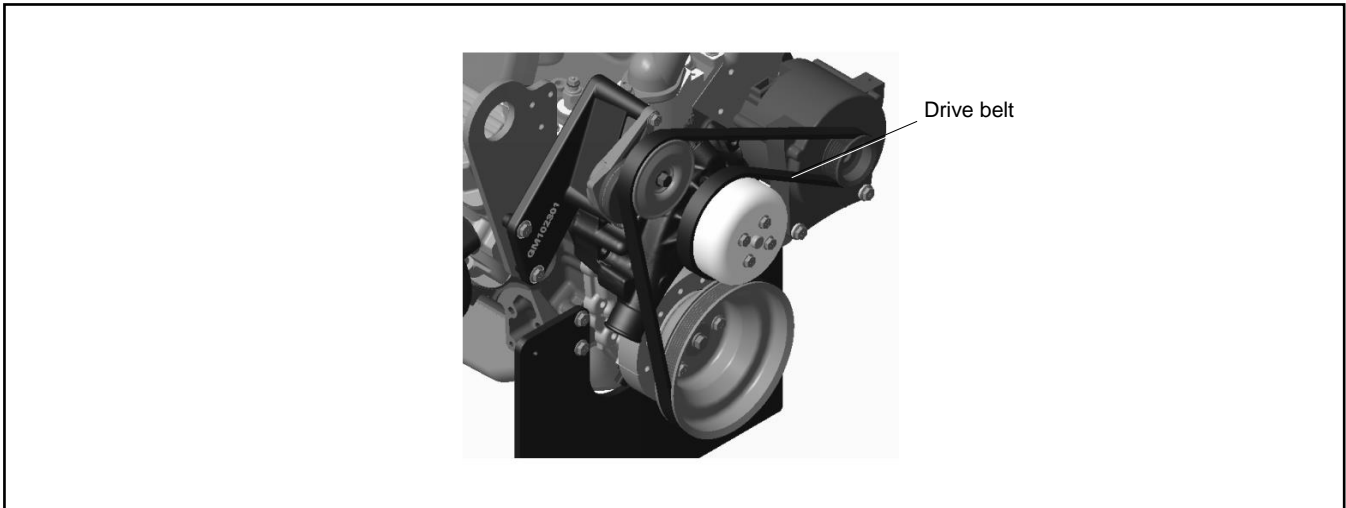

Figure 19 Drive Belt Location
2. Locate the drive belt. See Figure 19.